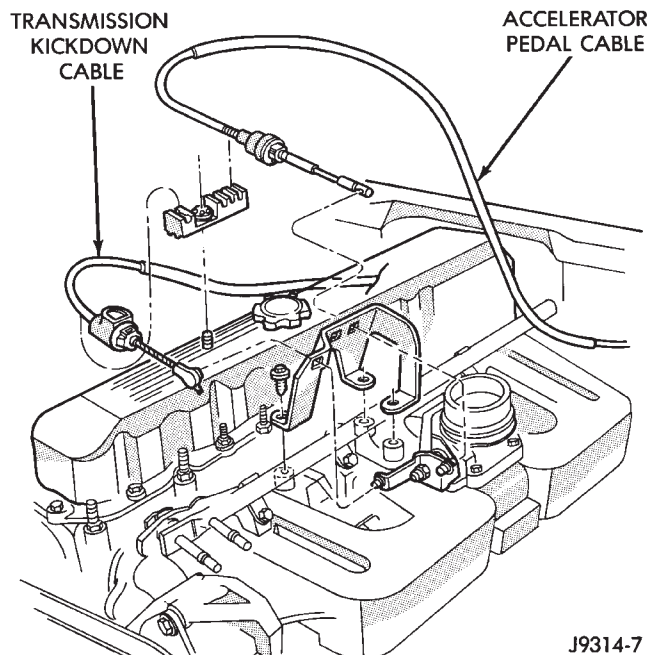

Fig. 41 Throttle Cable Routing—4.0L Engine
(4) 4.0L Engine: Remove cable from clip on engine valve cover (Fig. 41)